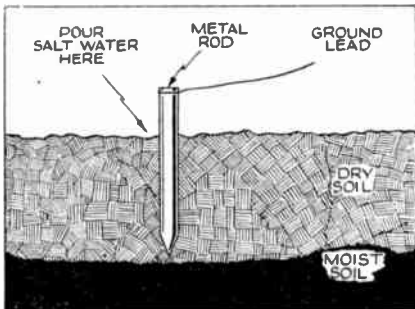

Fig. 56
(A) The most likely reason for this is a poor ground. If your ground connection is in dry soil, it is not good; but when the rain has soaked the earth, the ground becomes excellent. Change the ground. Also possible, but less likely, is that the coils of the set change their characteristics due to dampness, and that the R.F. or I.F. stages are incorrectly aligned when the coils are dry but, through chance, align more nearly right when the weather causes the change. If this is the case, replace the coils. See Fig. 56.